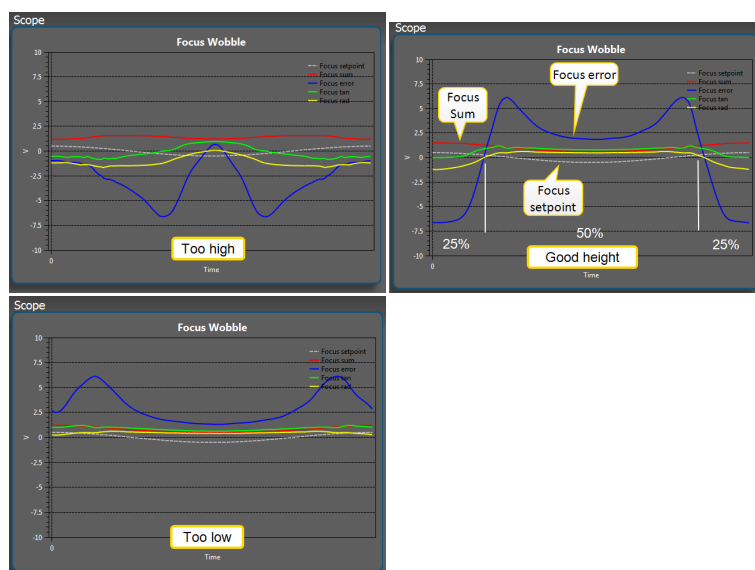

Figure 3-15 Scope window during writing module height adjustment: too high (l), good height (m), too low (r)
14. Check if the Focus Sum line maximum value as shown in **Figure 3-15 below** is between 2.5 and 7.5.
17. Turn the adjustment hand screw while watching the Scope window, see **Figure 3-15 below**.